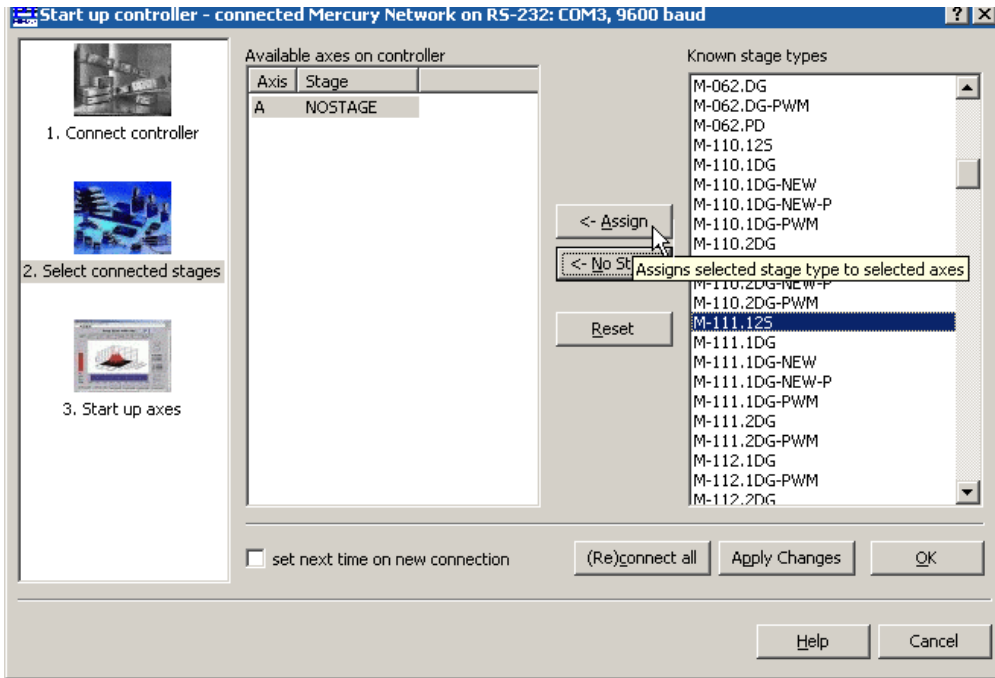

Fig. 3: PIMikroMove™ Start up controller: Step 2: select stage and be sure to click Assign before moving to Step 3 with OK
- After communication has been established, make sure the motion parameters of each axis are set as required for the mechanics. Starting parameters will be set if the software was informed of the type or class of stage connected (as in Fig. 3) . Otherwise it may be necessary to set the stage parameter values directly. Appropriate starting values are given in